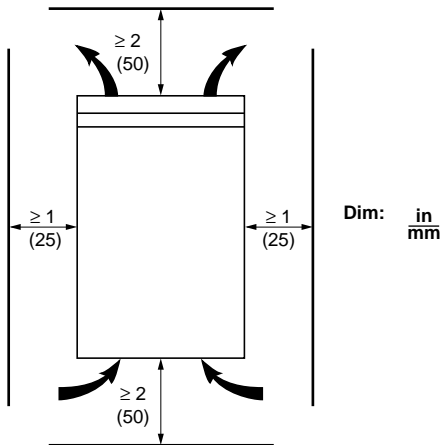

Figure 2: Clearances and Ventilation
- Figure 2 shows the minimum clearances required around the drive controller for unobstructed airflow; above and below: ≥ 2 in (50 mm), sides: ≥ 1 in (25 mm). These clearances should not be used as a minimum enclosure size.
- For 600 V systems, if no line reactor is installed or if power factor correction is used, contact the Drives Product Support Group at (919) 217-6535.
- Observe minimum clearance distances shown in Figure 2 on page 9